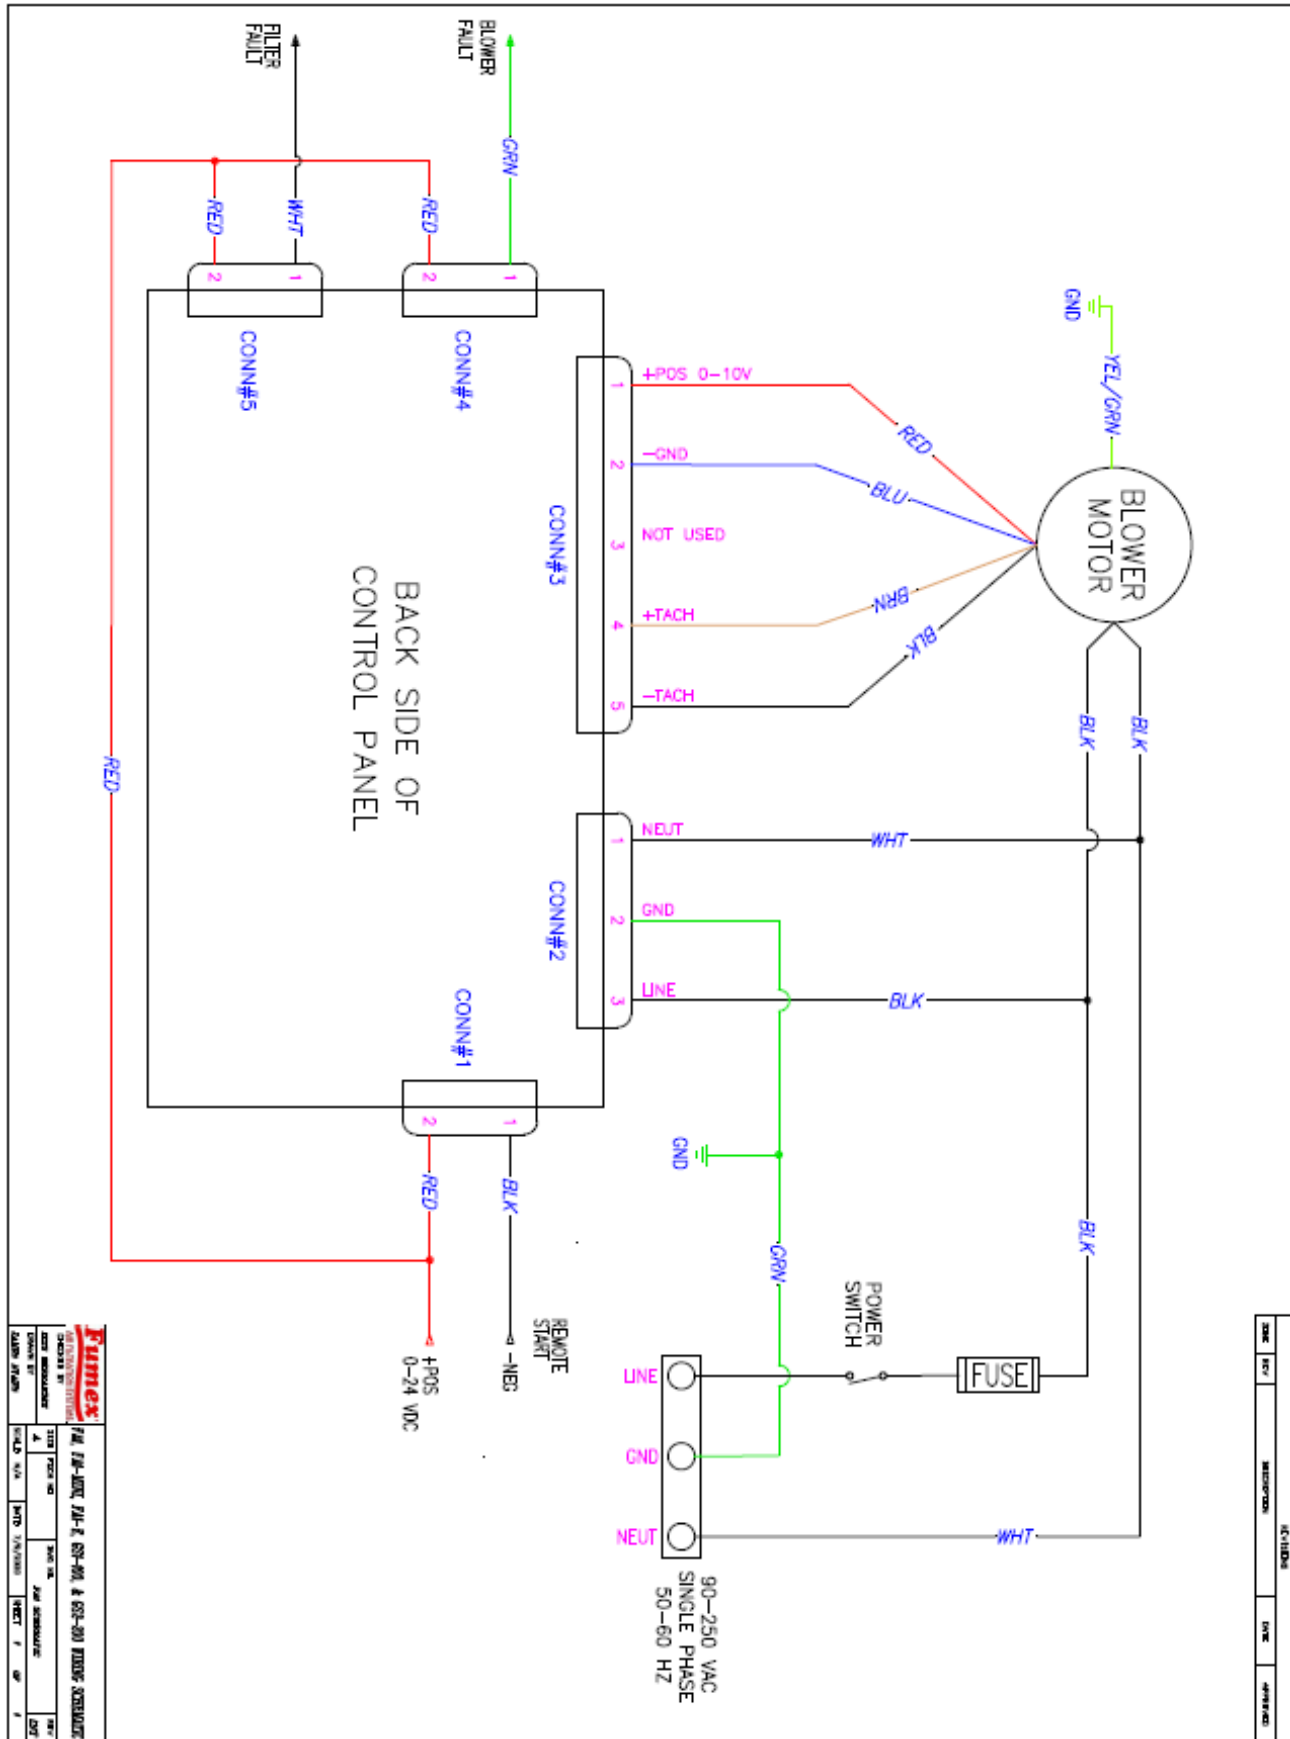

Figure 1
The GS1-100 unit can be supplied with an optional interface package providing remote start/stop and filter monitoring capabilities (Part # FA228). Please see instructions below for Relay Activation/De-Activation procedures and refer to the drawing in Figure 1 for remote connections.
3. Locate relay activation switch on the rear of the control panel as shown in Figure 1.